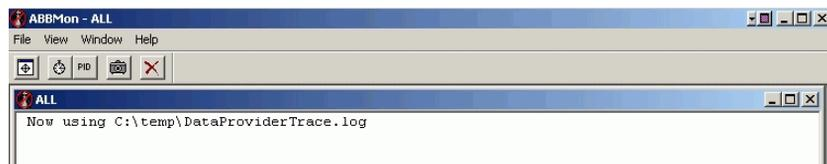

Figure 89. Trace Monitor Window
- c. Click **OK** when you are finished. This opens the Trace Monitor window, Figure 89. The window will be empty until you set up the monitor.